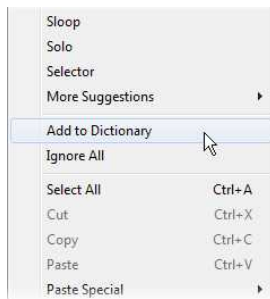

FIGURE 8.72: Adding a word to the AutoCAD dictionary
10. Near the top of the menu, click Add To Dictionary (see Figure 8.72).